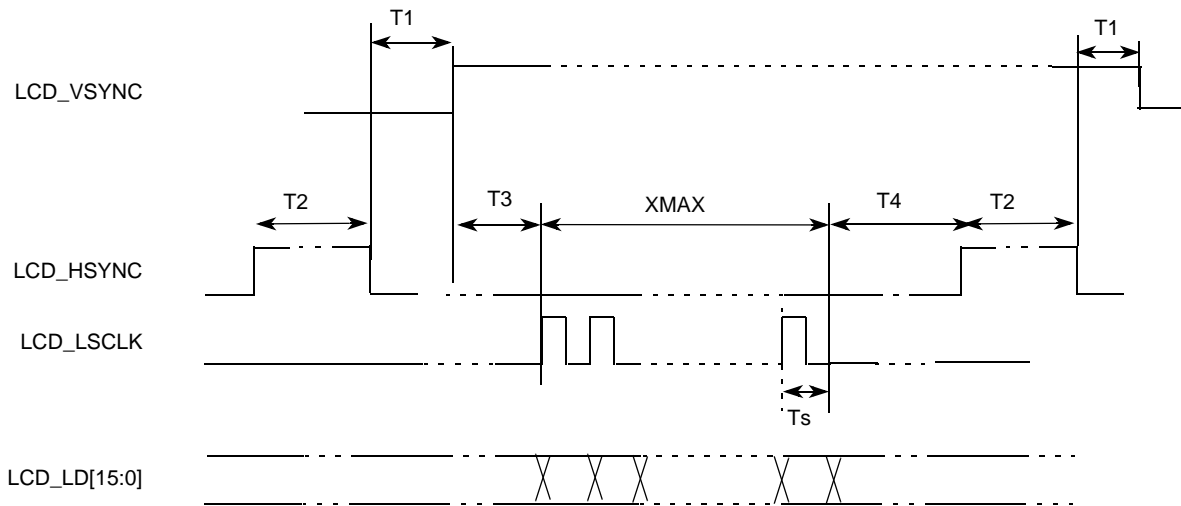

Figure 18. Non-TFT Mode Panel Timing
**Note:** Ts is the LCD\_LSCLK period while Tpix is the pixel clock period. LCD\_VSYNC, LCD\_HSYNC and LCD\_LSCLK can be programmed as active high or active low. In Figure 18, all three signals are active high. When it is in CSTN mode or monochrome mode with bus width = 1, T3 = Tpix = Ts. When it is in monochrome mode with bus width = 2, 4 and 8, T3 = 1, 2 and 4 Tpix respectively.